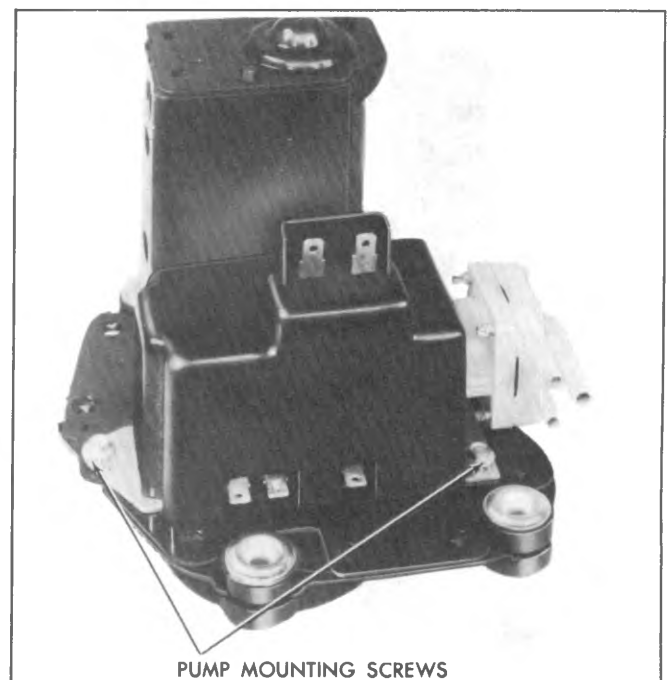

Fig. 8-29--Washer Pump Attaching Screws
2. Remove washer pump drive cam as required (figs. 8-29 and 8-30). The cam is pressed on the shaft but can be wedged off by using two screwdrivers between cam and plate.
The positive displacement washer pump used on the two-speed non-depressed park wipers (fig. 8-29) use a pump mechanism consisting of a piston, piston spring and valve arrangement driven by a (4) lobe cam, and follower assembly (fig. 8-31). The cam is attached to one shaft of the
CAUTION: Install washer multiplug harness connector with battery lead on terminal with no tang (fig. 8-29). Incorrect installation of connector will result in direct ground and destroy wiper